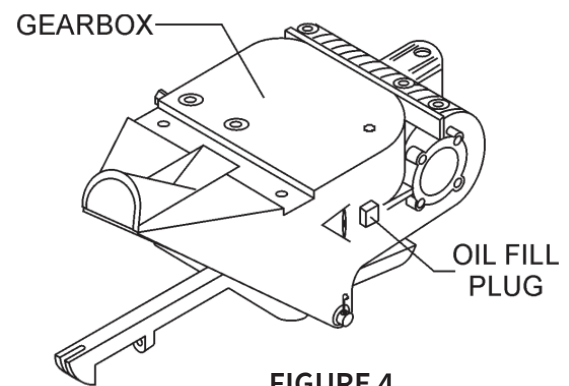

FIGURE 4
7.4.1 Determine if the gearbox oil is low by removing the oil plug located on the side of the gearbox. This plug will be marked by the "check" decal. See Figure 4. The correct level of the lubrication oil should be to the bottom of the fill plug.
Blades are a vital part of finishing concrete. This Tomahawk Trowel has been designed to finish concrete and is built to stringent quality standards out of the finest trowel steel. If you need replacement blades, consult your parts list in this manual for part numbers and order them from the Tomahawk Website FIGURE 4 your Tomahawk parts dealer.